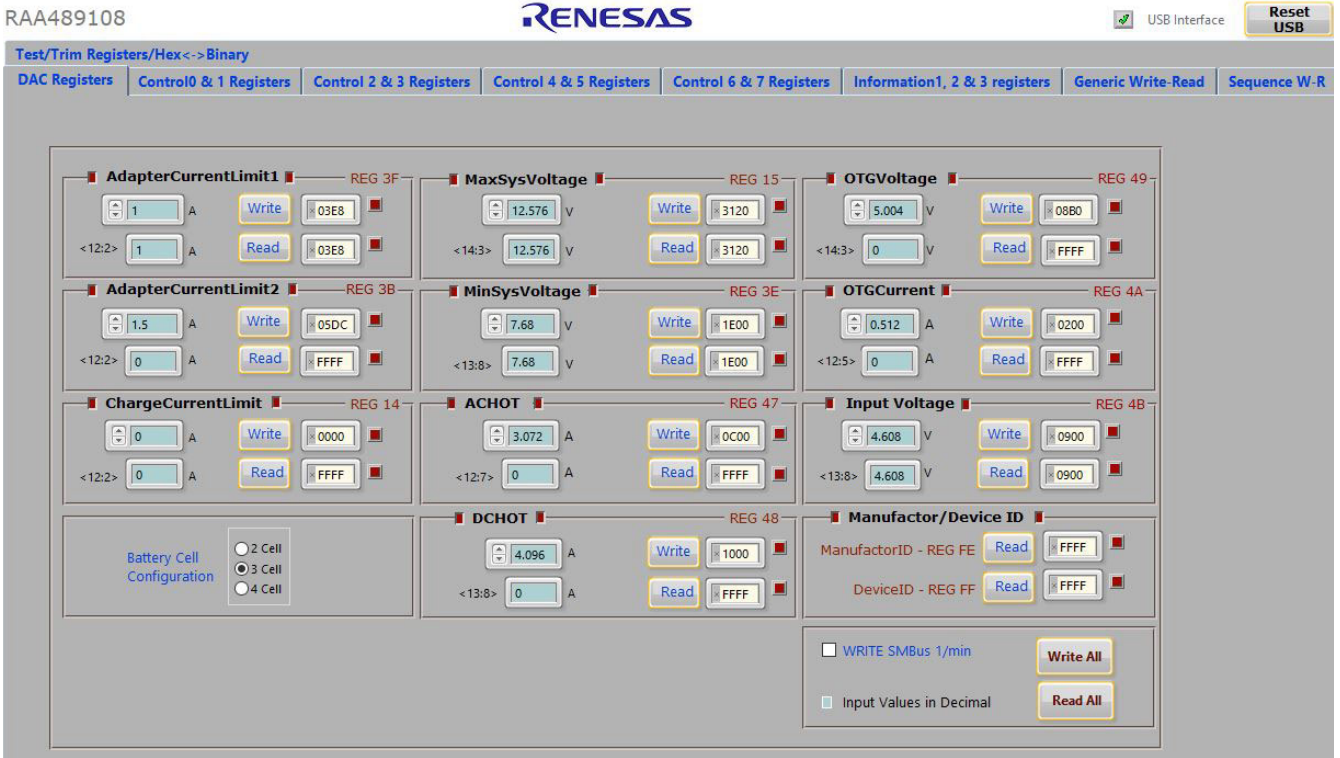

Figure 2. GUI Snapshot
The number of battery cell and adapter current limit default values can be configured with a standard 1% 0603 resistor (R23) from the PROG pin to GND. The PROG Pin Programming Options table in the *RAA489108 Datasheet* shows the programming options. After the default number of cells in series is set, the default values for MaxSystemVoltage and MinSystemVoltage are set accordingly. These values can also be changed through the SMBus control registers in the Renesas GUI, shown in Figure 2.
4. Turn on the power supply; LED 3 turns off. Turn on the battery emulator and open the RAA489108 GUI (shown in Figure 2).